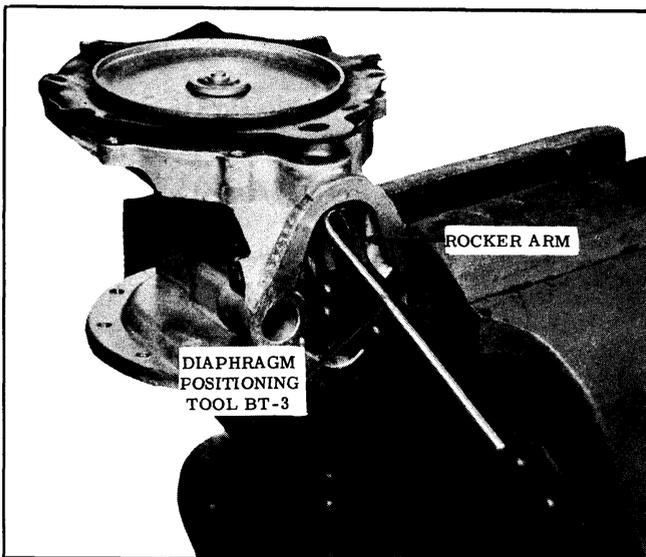

Fig. 8-75 Tool in Position
9. Depress rocker arm and insert hooked end of diaphragm Tool No. PT-8 (A-C) between rocker arm and the stop boss in body; then release rocker arm. (See Fig. 8-75)